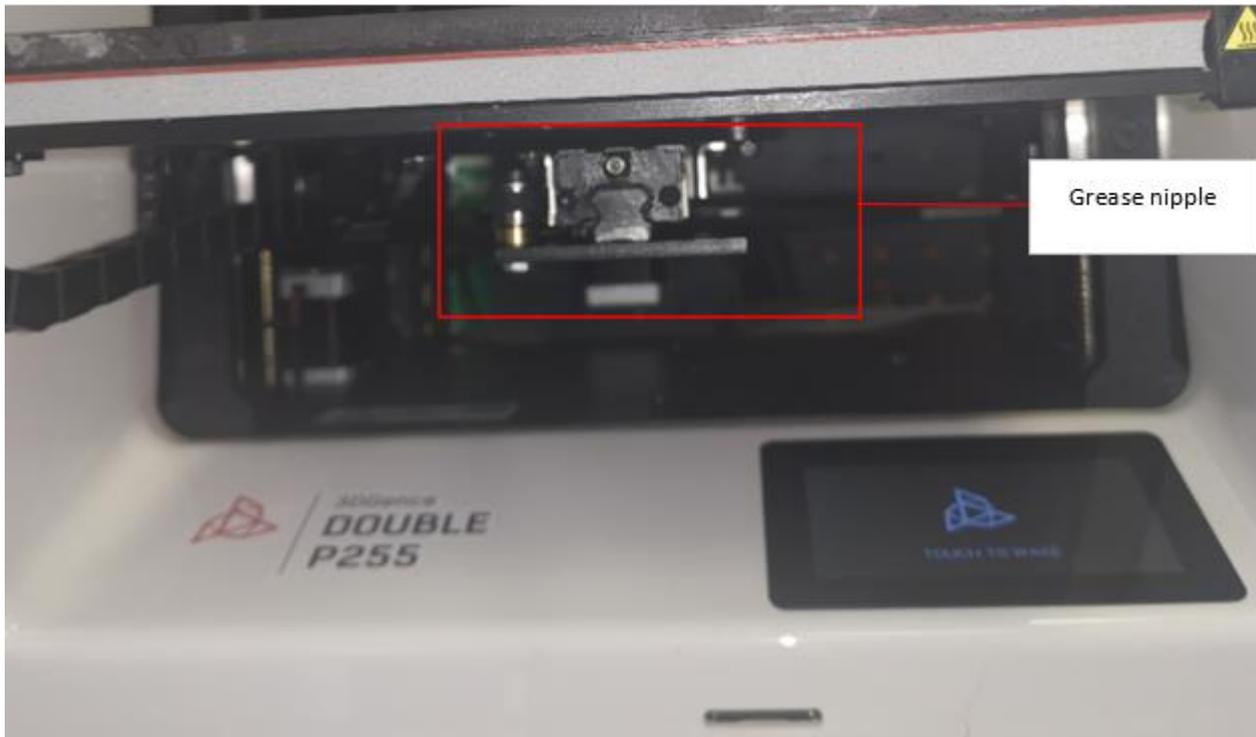

Fig.76 Linear carriage grease nipple Y axis
1. Move the heatbed to the front of the printer until it stops, to get access the Y axis linear carriage grease nipple (Fig.76)